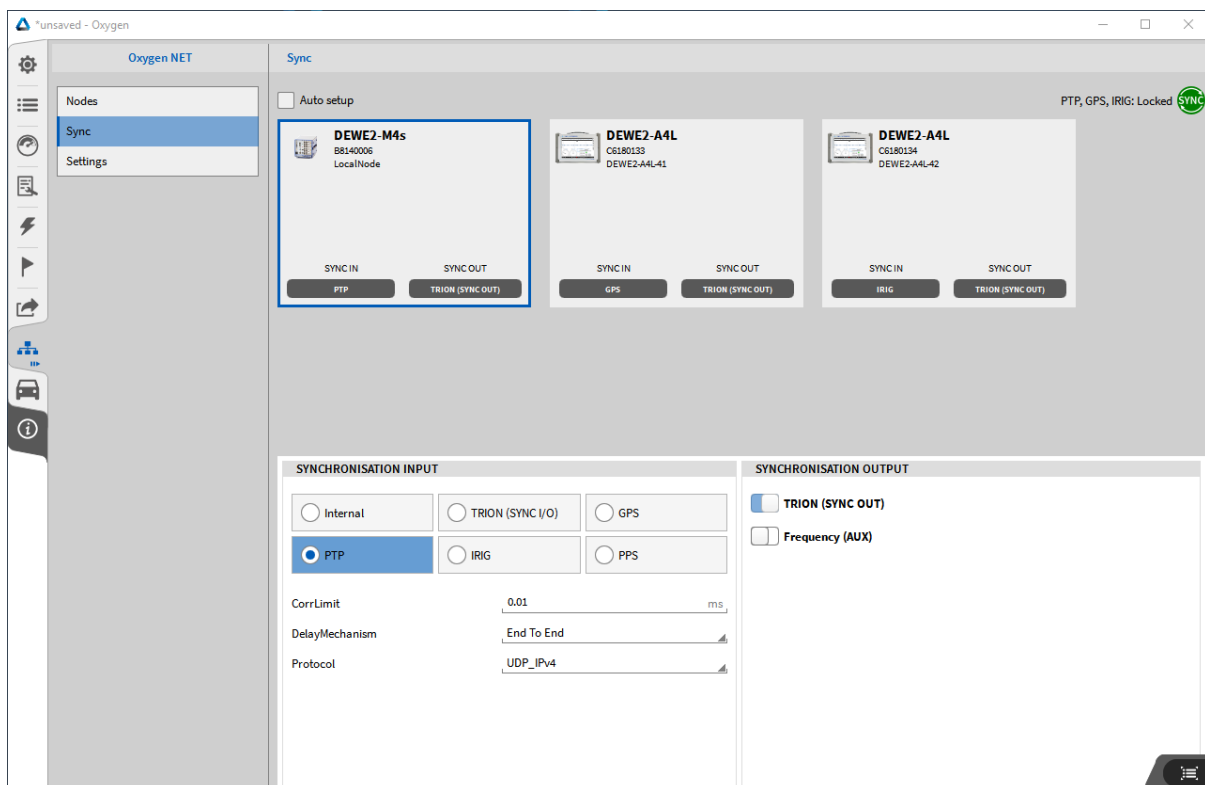

Fig. 15.20: Sync View with TIMING-Modules. Select node to changesettings
- It is not necessary to use the same Source within every node, you can use GPS at the first node and PTP at the second node, see Fig. 15.20.